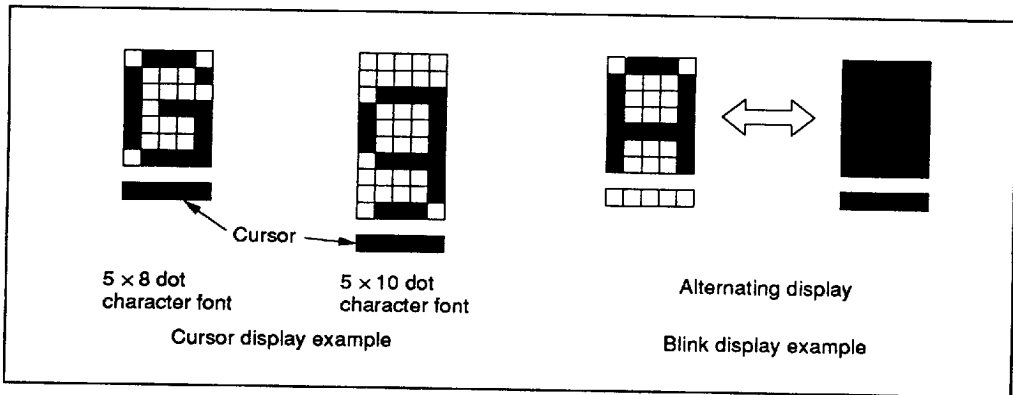

Figure 16 Cursor and Blinking
**C:** The cursor is displayed when C is 1 and not displayed when C is 0. Even if the cursor disappears, the function of I/D or other specifications will not change during display data write. The cursor is displayed using 5 dots in the 8th line for 5 × 8 dot character font selection and in the 11th line for the 5 × 10 dot character font selection (figure 16).
**B:** The character indicated by the cursor blinks when B is 1 (figure 16). The blinking is displayed as switching between all blank dots and displayed characters at a speed of 409.6-ms intervals when  $f_{cp}$  or  $f_{osc}$  is 250 kHz. The cursor and blinking can be set to display simultaneously. (The blinking frequency changes according to  $f_{osc}$  or the reciprocal of  $f_{cp}$ . For example, when  $f_{cp}$  is 270 kHz,  $409.6 \times 250/270 = 379.2$  ms.)